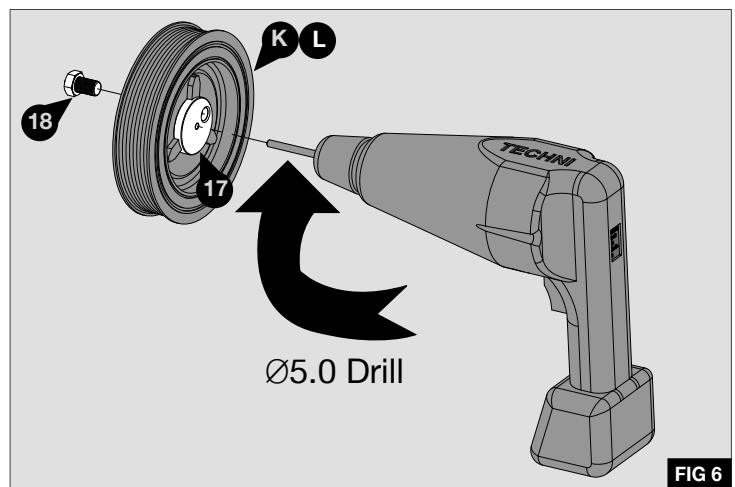

FIG 6
2. Mount the drilling jig (17) to the rear of the previously removed engine damper fixing it with bolt (18) - Fig 6